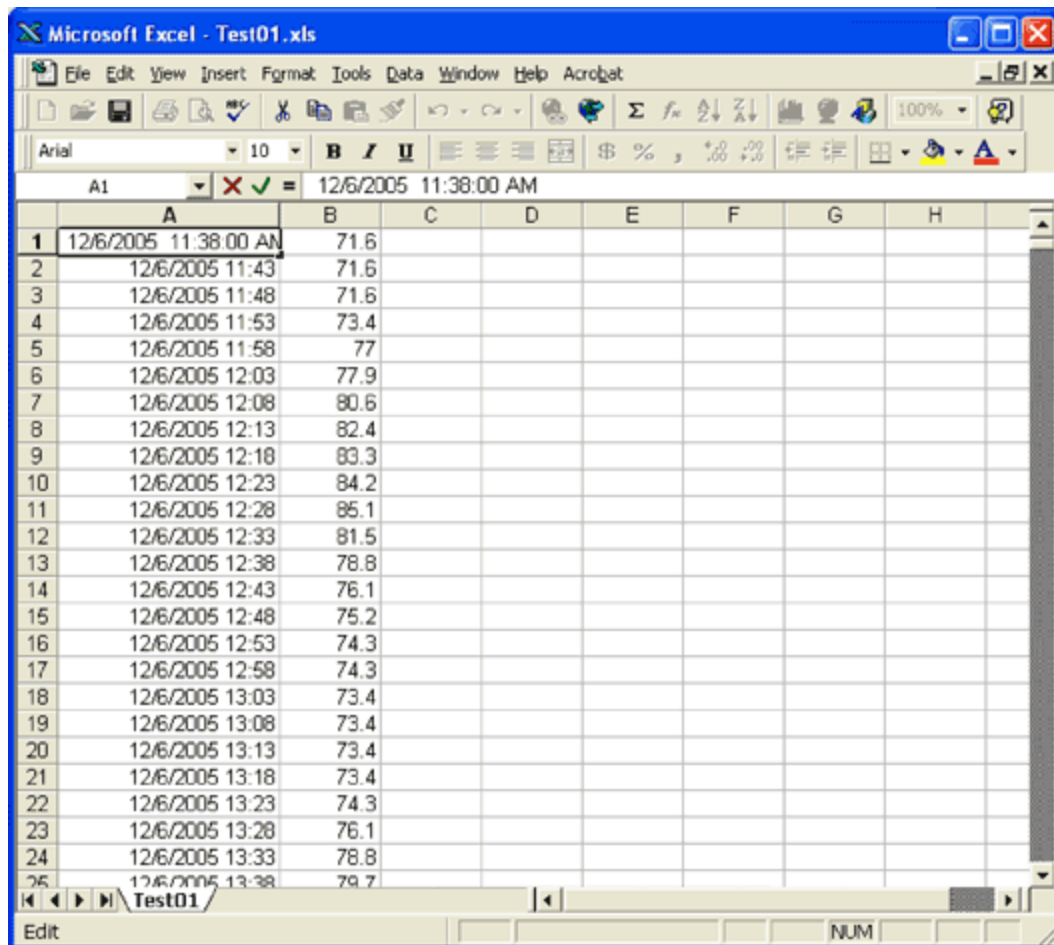

Figure 9. You must insert a space before the data and time after you select that cell.
1. To create a graph, go to the first date and time entry of the graph. Select that cell. A space must be placed in front of the data in the operations line of the Excel file (**Figure 9**).